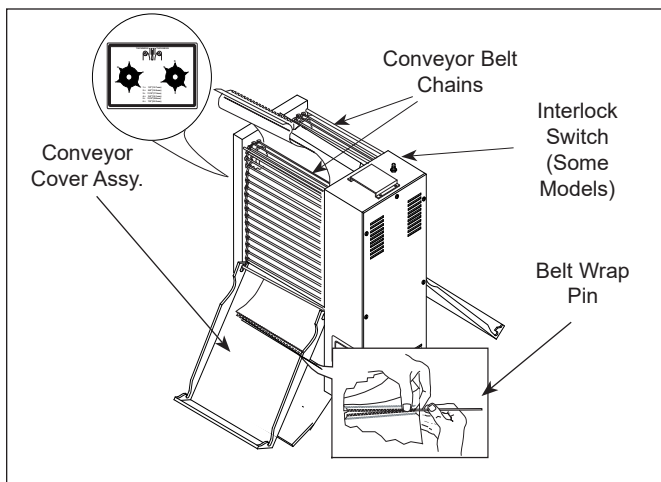

Figure 6. Removing Belt Wrap
2. Press and hold the **TEMP UP** and **TEMP SCALE** buttons for over 1 second until the display flashes the setpoint temperature (Figure 6), then release.
3. Open both Conveyor Covers and pull the Belt Wrap Pin out of the zipper (Figure 6).